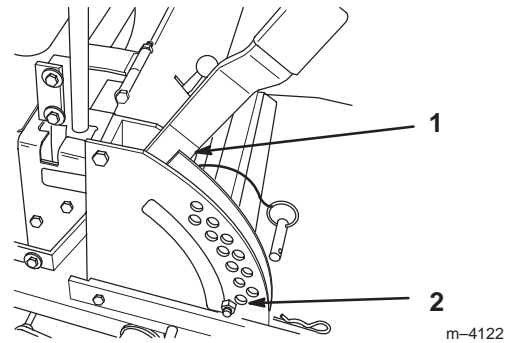
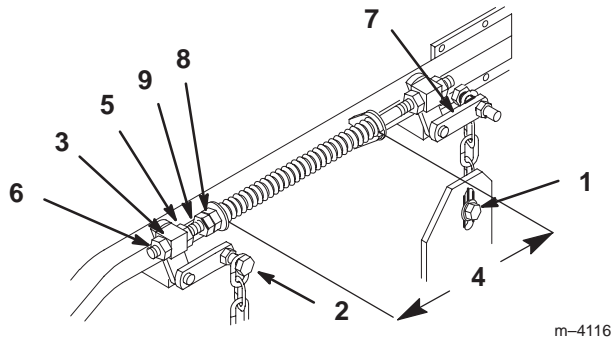

Figure 57
Figure 58
- Check tire pressure of all four (4) tires. If needed, adjust to 13 psi (90 kPa)
- Raise the deck to the transport position (Fig. 57). Take force off of the two large deck lift springs by loosening jam nut and front spring nut, in front of each spring, as far as possible (Fig. 58).
- Place two 1-1/4 in. (35 mm) thick blocks under rear left and right lower edge of mower. Place one 1-3/8 in. (44 mm) block under front center lower edge of mower. Not under anti-scalp roller brackets. Lower mower to the 1-1/2 in. (38 mm) height-of-cut position (Fig. 57).
- Loosen bottom chain bolt in slot at rear of deck. Repeat for opposite side. (Fig. 58).
- Loosen front and rear locking nut on either side of front swivel. Loosen until front chains are loose and deck is supported by blocks. Repeat for opposite side. (Fig. 58).
- When hardware is loosened, remaining tension in the large support springs will tend to rotate the deck lift handle up, out of the 1-1/2 in. (38 mm) position. Press down on the rear deck support arm to firmly return the deck lift handle to the 1-1/2 in. (38 mm) position (Fig. 58).
- While continuing to press down on rear deck support arm, take the slack out of the rear chain and tighten hardware at the bottom (Fig. 58). Downward pressure may now be released. Repeat for opposite side.
- Raise deck lift lever to the transport position (Fig. 57).
- Adjust compression springs by turning the front spring nuts so the distance between the two large washers is 10-1/4 in. (260 mm). Then tighten jam nut (Fig. 58).